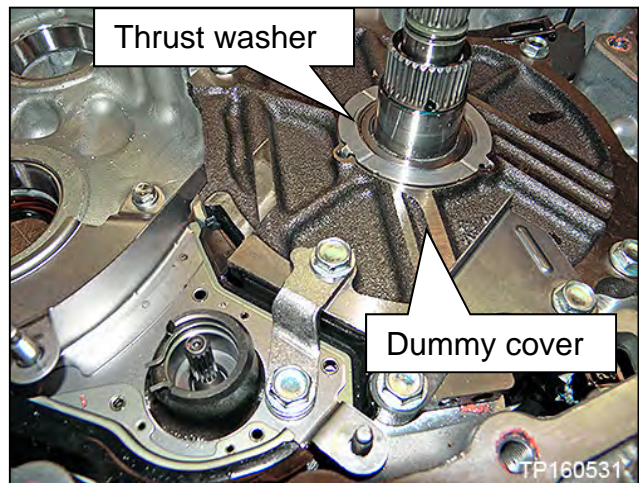

Figure 45
- a. "Pump cover" (dummy cover) thrust washer (Figure 45).